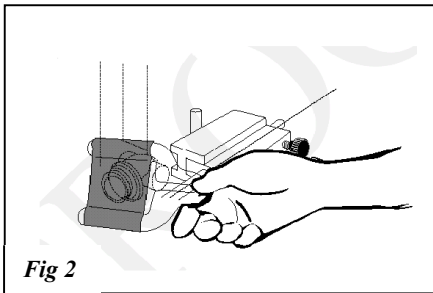

Fig 2
- Gently pull the radiator valve away from the radiator creating a gap and slide the seal into it, covering and sealing the radiator outlet. Fig 2